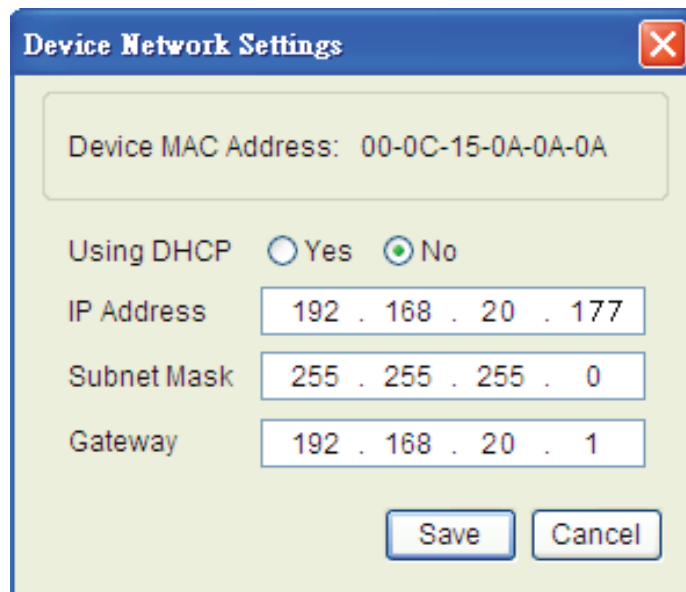

Figure 2 - The SNMP card-setting window
- 5) You can modify the IP Address, Subnet Mask, and Gateway address for the Device MAC Address listed in the Device Network Settings window, as shown in Figure 2. The default IP Address is 192.168.20.177, the default Subnet Mask is 255.255.255.0.